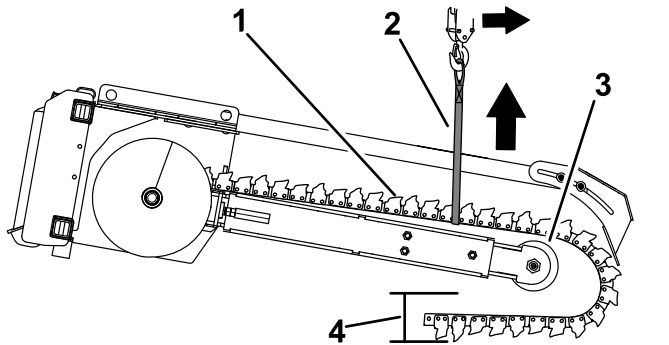

Figure 16
1. Lower the lifting equipment until the end of the digging chain is laying on the ground (Figure 16).
3. Start the machine and lower the boom until the idler wheel is positioned 31 to 36 cm (12 to 14 inches) above the ground (Figure 16).
6. Wrap the lifting strap around the digging chain at the idler wheel, and attach the strap to the lifting equipment (Figure 16).
7. Raise the lifting equipment and remove the digging chain from the boom (Figure 16).